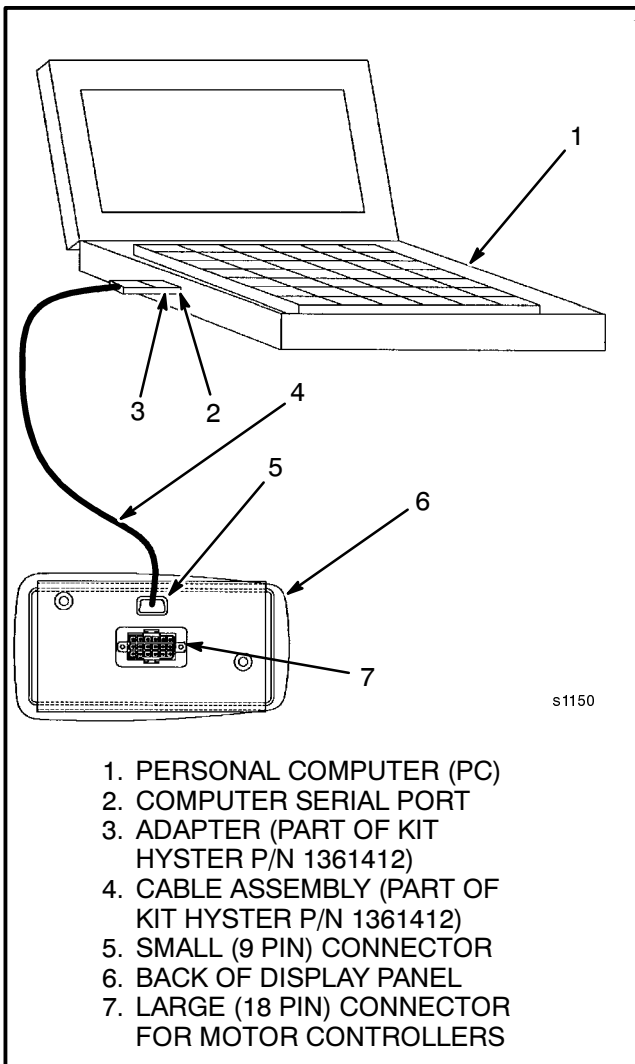

FIGURE 1. CONNECTING PC TO DISPLAY PANEL
Connect the personal computer (PC) to the small (9 pin) connector on the back of the SEM Display Panel (under instrument panel). Connect the PC as shown in FIGURE 1. All other units without the SEM Display Panel, require connecting the computer at the motor controller. Connect the battery.
Main Frame (See FIGURE 1.)
Other Frame Weldments (See FIGURE 1.)